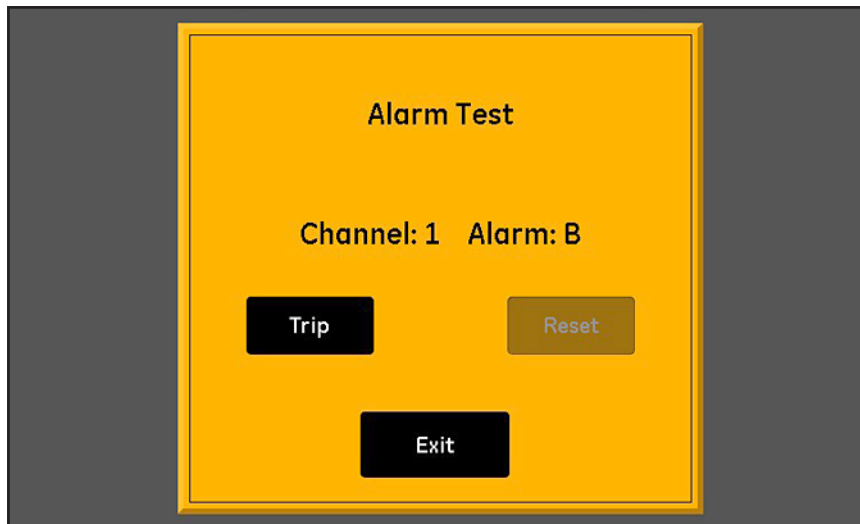

Figure 48: Alarm Test Screen
1. Tap the **Channel (1-6)** and **Alarm (A or B)** to be tested, and then tap the **Test** button to open a screen similar to *Figure 48* below.